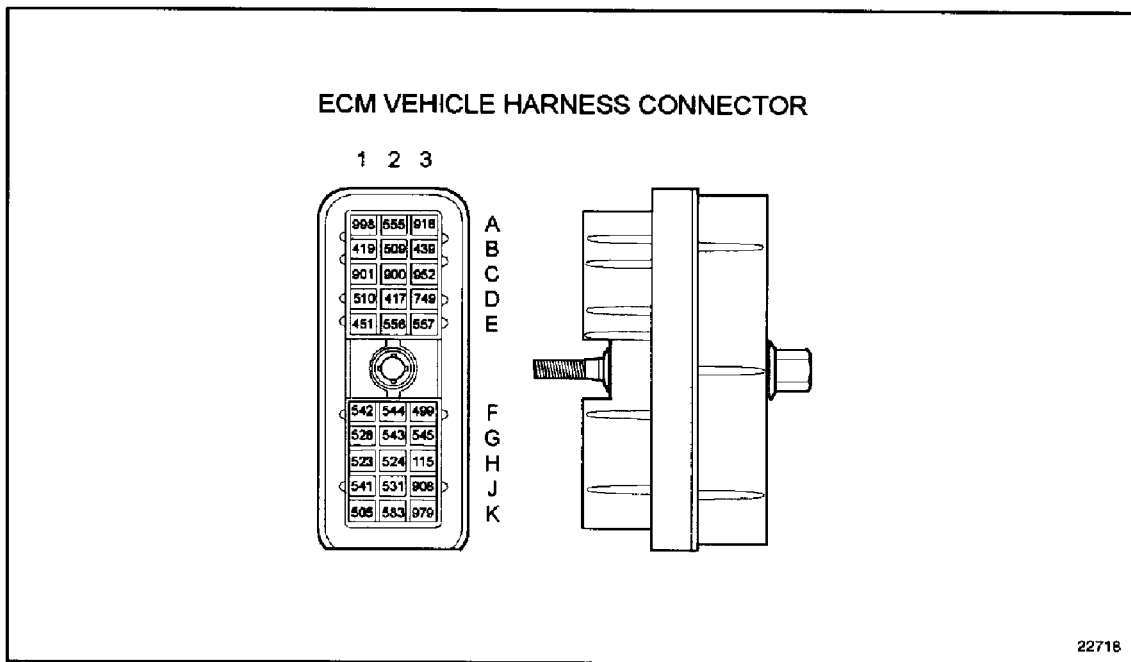

Figure 54-3 ECM Vehicle Harness Connector
3. Measure resistance between sockets E2 and E3 and a good ground. See Figure 54-3.